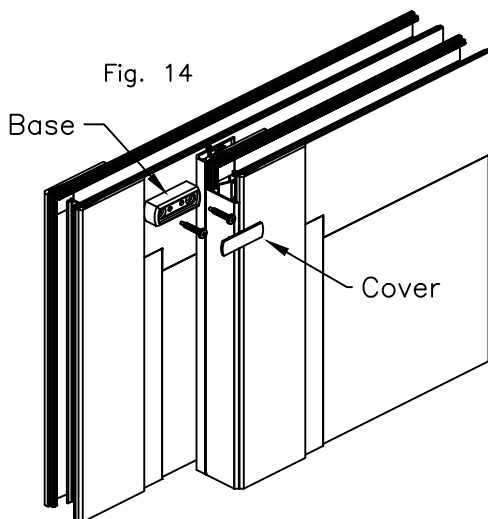

Fig. 14
- a) Panel Bump Stops are used to stop movement of panels before handle sets clash or interlocks clash. Locate bump stop 1 3/8" down from top interior of panel and in alignment with panel corner joinery as shown in Fig 14 and Fig 15. To insure no damage to glass, attach with two #8 x 1" Self Drilling screws per bump stop.